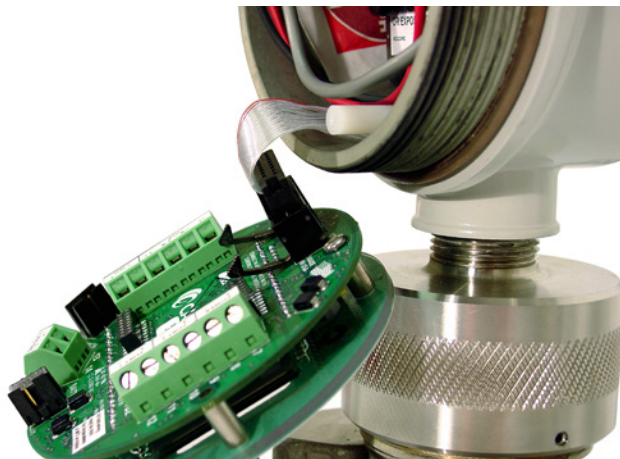

Figure C.12—Latch securing the ribbon cable
- a. Lift the latch from the black clip securing the ribbon cable (Figure C.12).